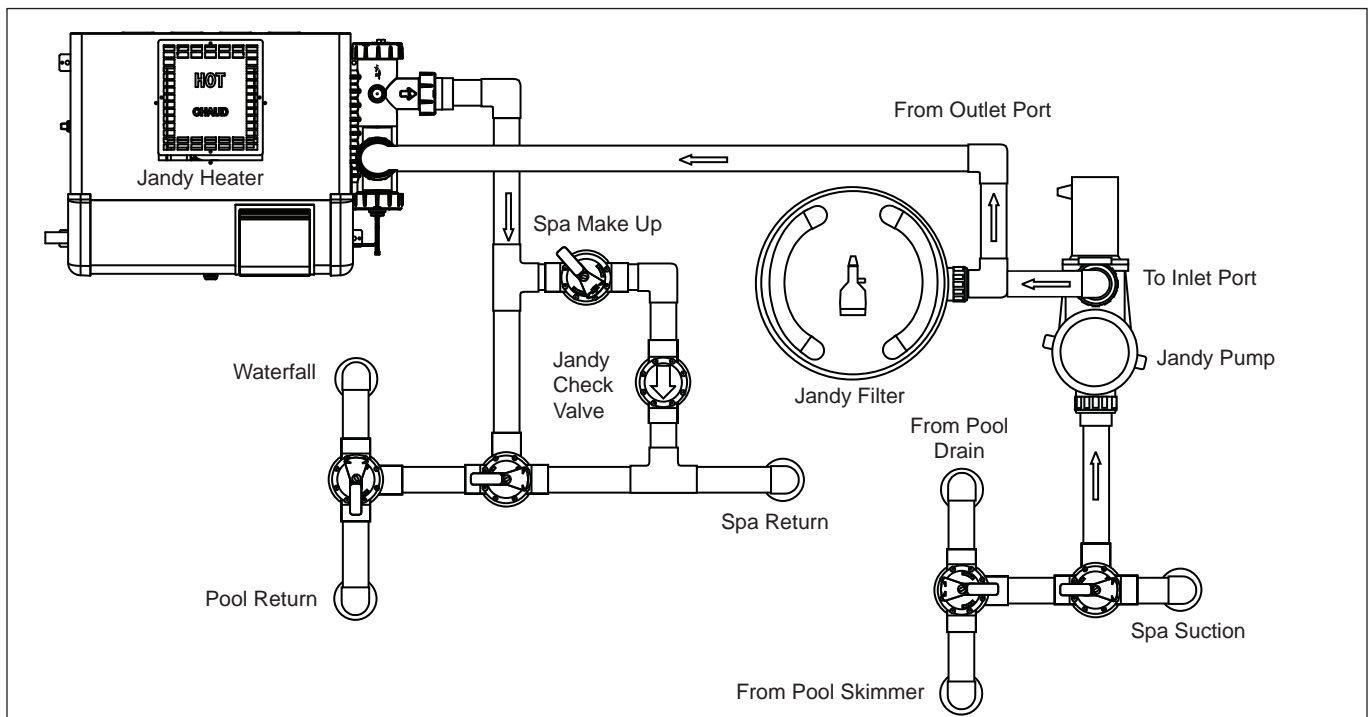

Figure 4. Basic Pool/Spa Combination Plumbing
- a. the inlet/outlet pipes (see Figure 4). **Remove the shipping screw.**